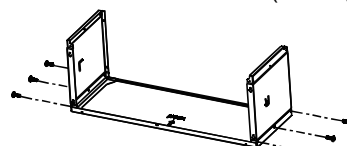

Fig.2
- Install 6 short screws as shown below.(See Fig.2)